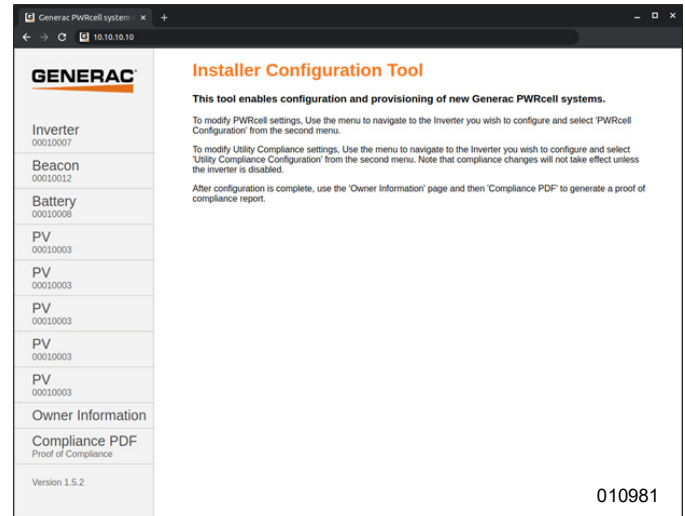

Figure 6-29. Installer Configuration Tool
- See Figure 6-29. Open a web browser on a smartphone or laptop and enter 10.10.10.10 for the